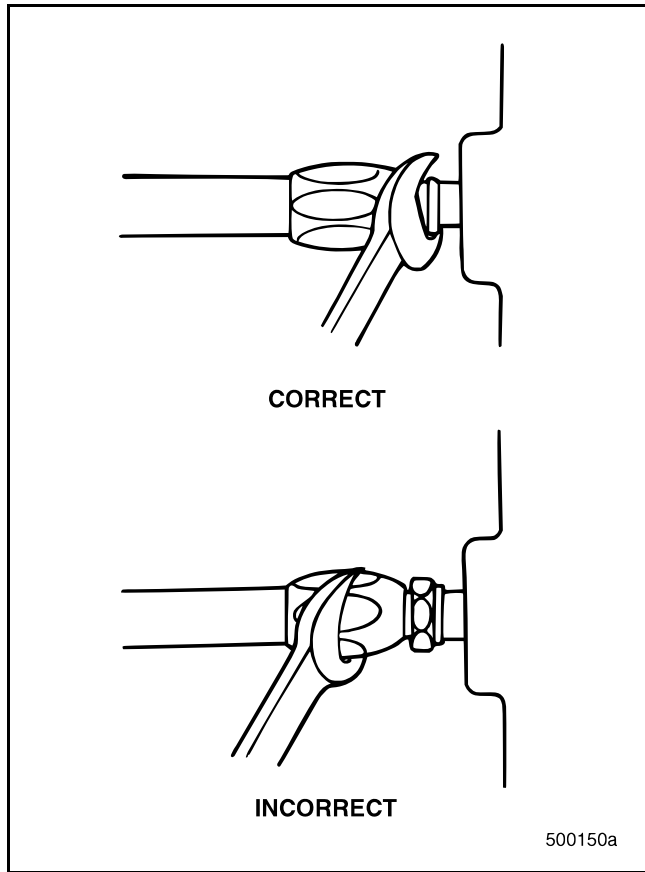

Figure 216 — Tightening Male-End Fittings
5. When installing male-end fittings, use the nipple hex, not the socket hex, to tighten the fitting. Refer to Figure 216.